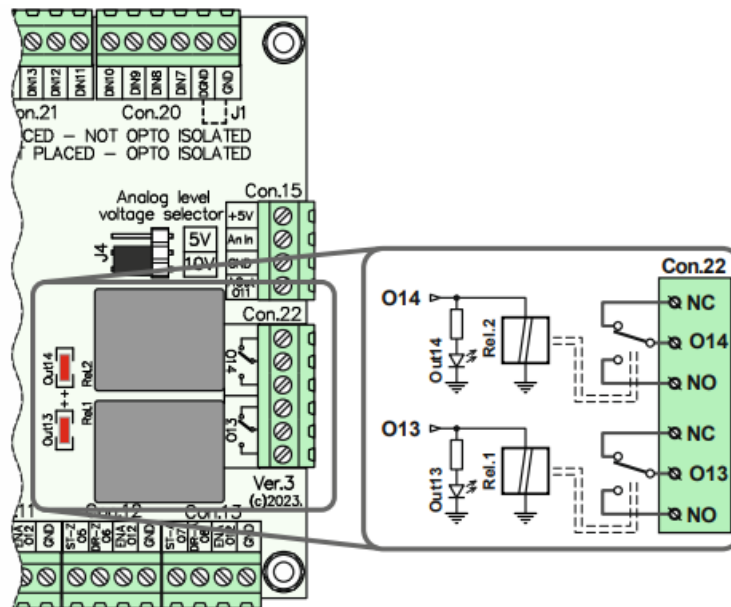

Figure 8.10 Possible connection of relay outputs
- Figure 8.10 shows the possible wiring scheme of relay outputs on the USB-MC-INT motion controller. For currents that exceed 3A, it is recommended to use external relays with higher nominal current or contactors and in that case, these can be activated by relays on the USB-MC-INT motion controller.